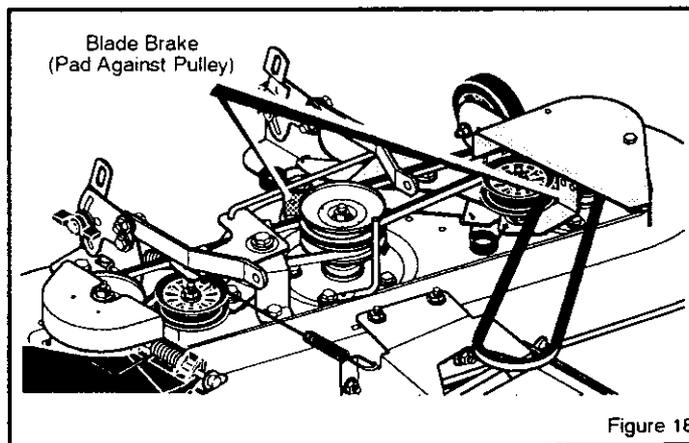

Figure 18
9. Move the blade rotation control to the **DISENGAGE** position. Stop the engine. Disconnect the wire from the spark plug. Check the operation of the blade brake. Rotate the pulleys with your hand. Make sure the **brake pads** are pressed tightly against the pulleys (Figure 18).